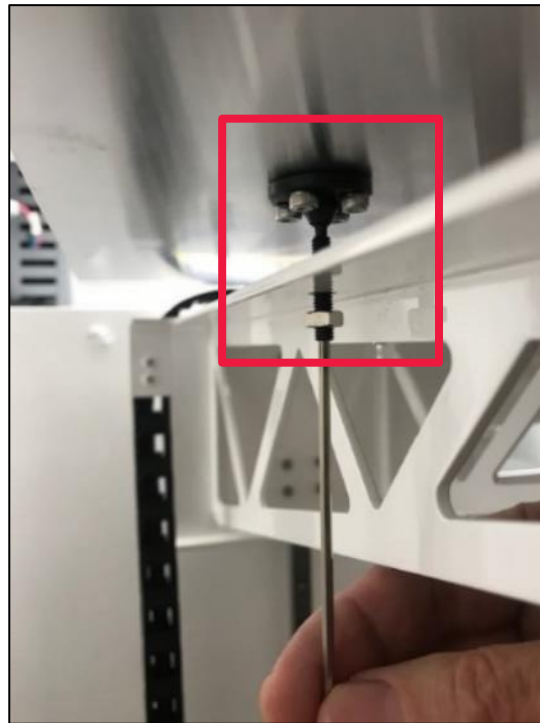

Figure 20: Rotate Leveling Screw
2. Adjust the leveling screws according to the values displayed (Figure 20).